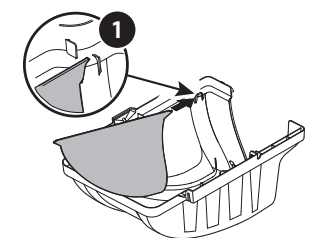

Figure 9
3. If not already done so by the factory, install the screen (731-06504) into the bagger cover (631-04292) by first inserting the end closest to the side with the cut-out (1) into the mounting hole, as in Figure 9.